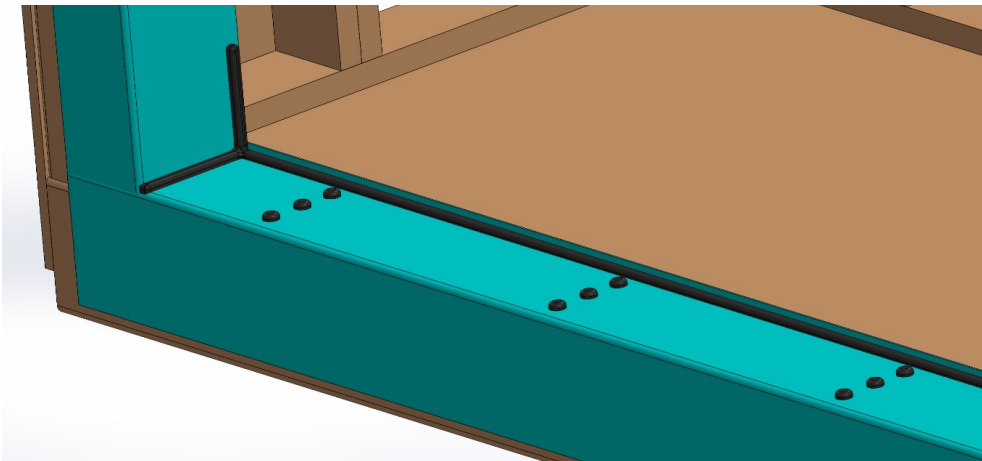

Figure 4
11. With the sill assembly removed, and clean from debris, apply a 1/2" bead of sealant to the floor from jamb to jamb along the exterior edge of the mark previously applied to the floor. The sealant should be applied in a U-shape to ensure a proper and complete water-barrier has been accomplished across the full width of the sill opening, and at least 6" up each side. (See Figure 4)